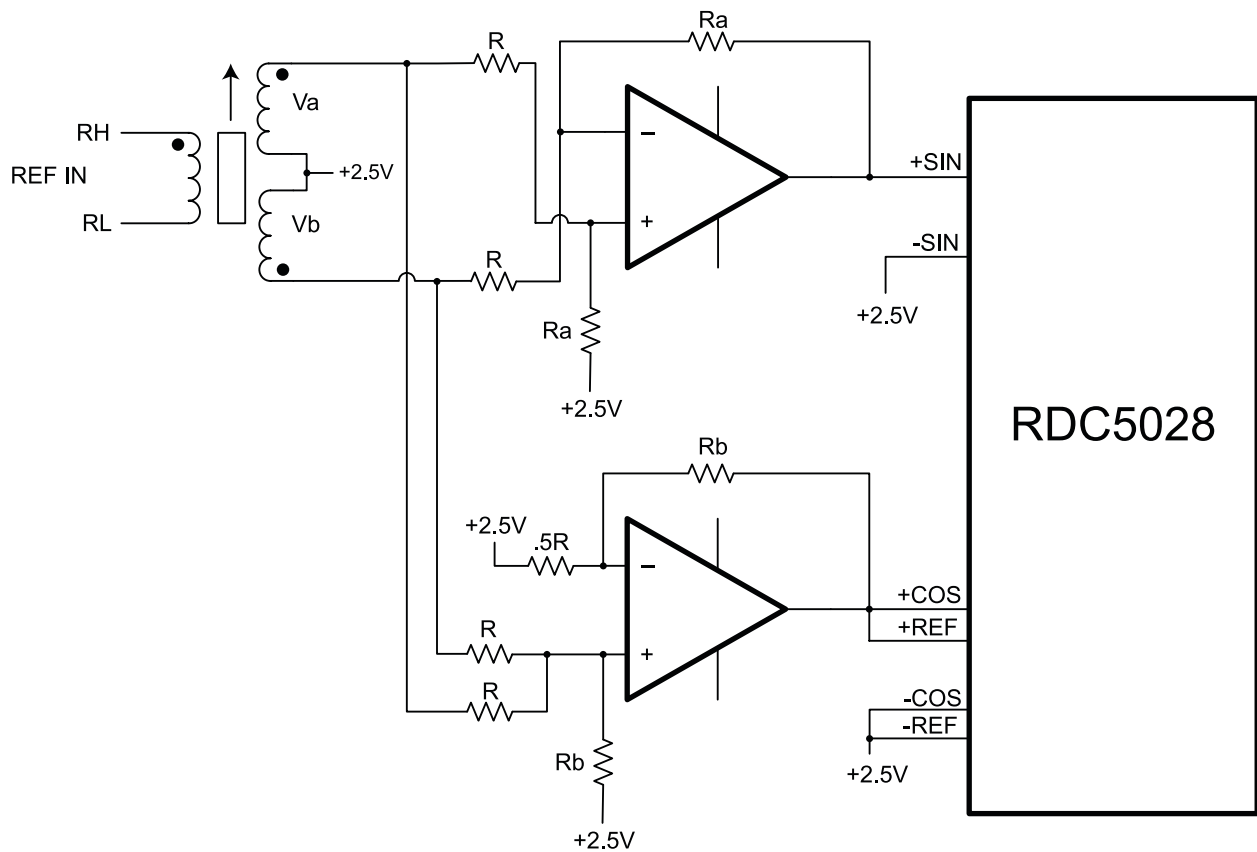

Figure 3 – Three Wire LVDT CT Floating
2. Figure 3 utilizes a three wire LVDT with the center tap floating.